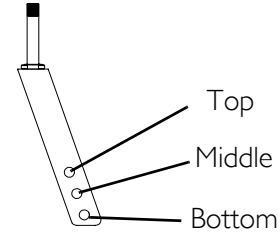

FIGURE 10.1 Changing Seat-to-Floor Height
NOTE: For this procedure, refer to FIGURE 10.1.
1. Refer to the following chart in FIGURE 10.1 to determine mounting positions for front casters/forks and rear wheels for the desired obtainable seat-to-floor height: